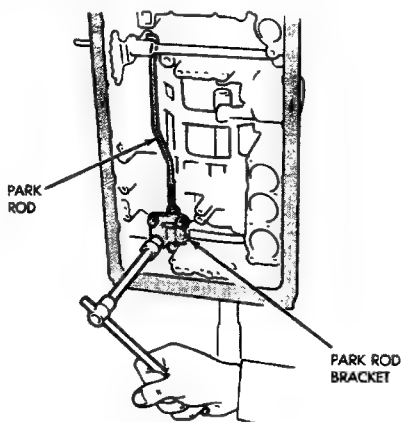

Fig. 20 Removing/Installing Park Rod Bracket
- (2) Remove oil pan and valve body.
- (3) Remove bolts attaching park rod bracket to case (Fig. 20).